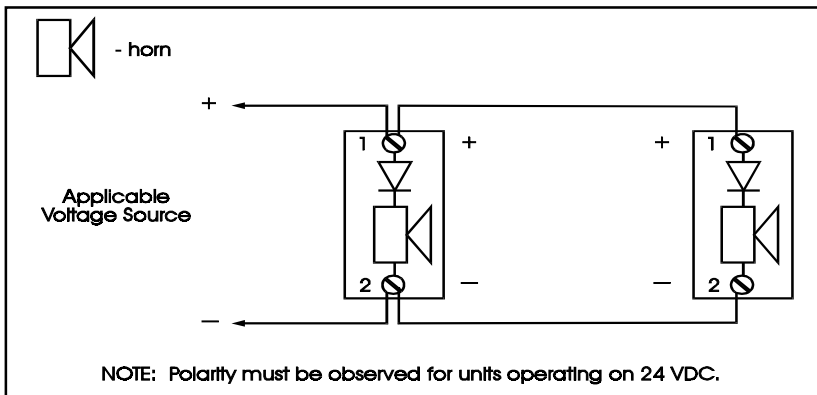

Figure 2. Wiring Diagrams
4. Connect the signaling circuit field wires to the terminals (Figures 2 and 3).Polarity must be observed for units operating on 24 VDC.